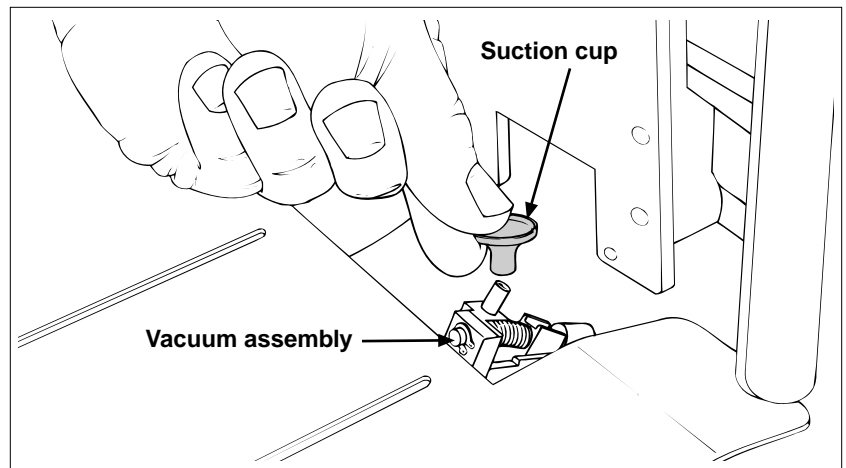

Figure 2-12. Removing Suction Cup from Vacuum Assembly
2. Remove suction cup from vacuum assembly (Figure 2-12).